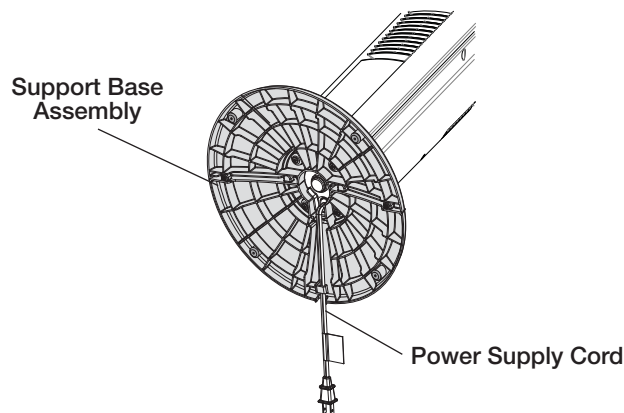

Figure 2
3. Thread the **Power Supply Cord** through the large hole in the center of the **Support Base Assembly**. (*Figure 2*)